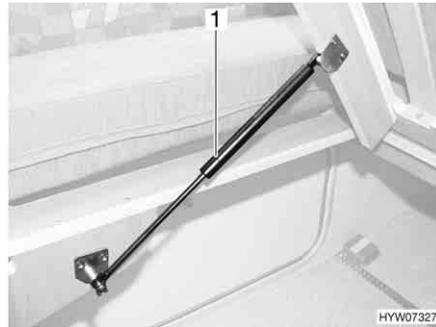

Fig. 103 Fixed bed
■ Lift slatted frame. The gas-pressure springs (Fig. 103,1) hold the slatted frame open.